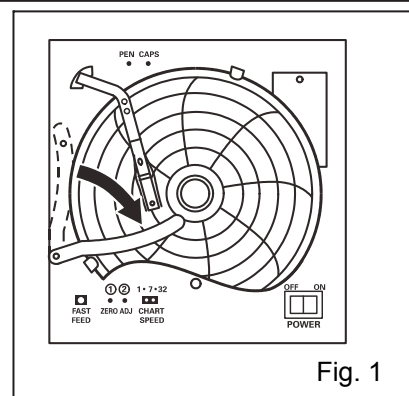

Fig. 1
2. Slightly raise the end of the pen lifter and remove from the pen lifter stopper. Then rotate clockwise as shown in Fig. 1.
1. Slightly raise the end of the pen lifter and remove from the pen lifter stopper. Then rotate clockwise as shown in Fig. 1 (page 28).